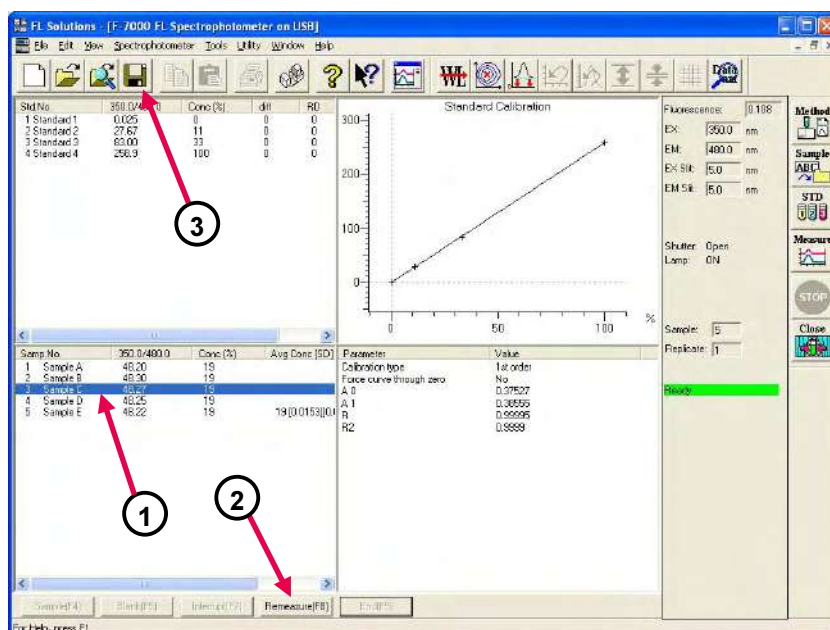

Fig. 4-42 Measurement End Window (without using sample table)
- ① Click the data to be remeasured for making it active as shown in Fig. 4-42.
NOTE: Figure 4-42 shows the window for the case where the sample table is not used. Five buttons including the **Remeasure(F8)** are displayed. On the window for the case where the sample table is used, only the **Remeasure(F8)** button is displayed.